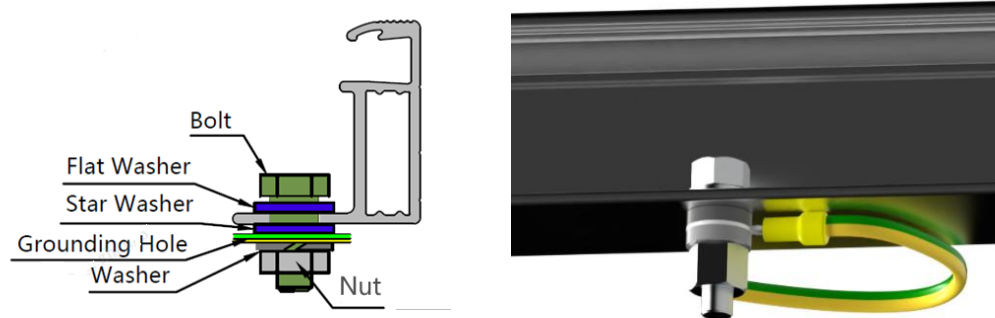

Figure 11. Grounding hole with bolts
- There are grounding holes with a diameter of 4mm on the long side of the back frame of the module, by the edge part. The grounding hole on the frame is marked with typical grounding symbol ($\perp$) according to IEC 61730-1:2023 standard. These holes can only be used for grounding with bolts, so cannot be used for module installation. This method includes bolt, flat washer, start washer, washer and nut (see Figure 11) . The bolts should be tightened when grounding is installed. The frame of the module must not be punched with additional holes and no damage should be done to the module frame or the grounding wire.